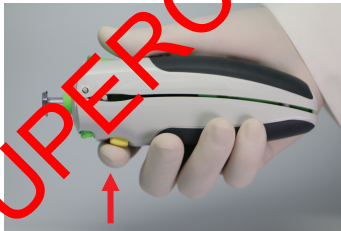

figure 10
- a) With forefinger, depress and hold the Injector Safety Button. This allows the Inner Core Housing to retract freely, as shown in figure 10.
NOTE: If the Inner Core Housing returns to the original extended position and becomes locked, simply press the Safety Button again (See Figure 10) and start injection operation from Section 4.